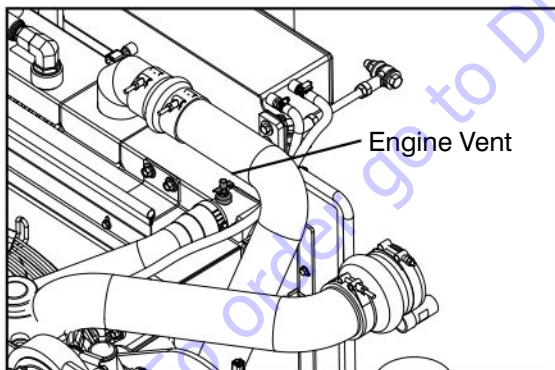

Figure 5-1 Engine Vent Location
2. Open engine vent. Leave vent open during radiator fill. Refer to Figure 5-1.